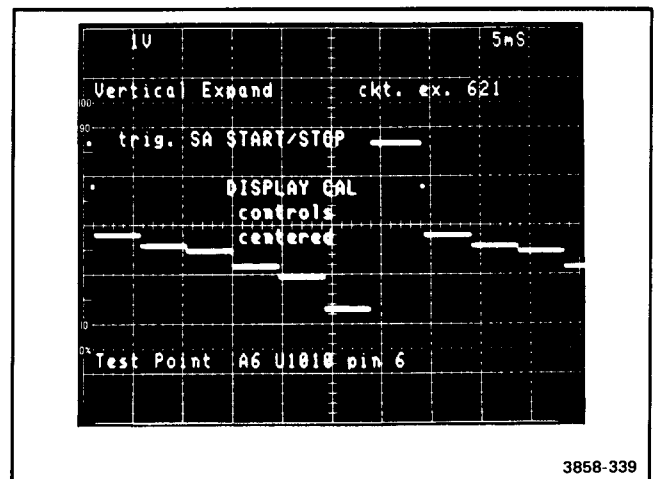

Figure 3-19. Waveform for Vertical Expand test.
35) Vertical Expand (621). If this test fails, place the Display Board on an extender and run circuit exercise 621. Use an oscilloscope to troubleshoot the Vertical Expand. Waveform Figure 3-19 is a typical output of this test. The SA Start/Stop line provides a stable oscilloscope trigger while using this test for troubleshooting.